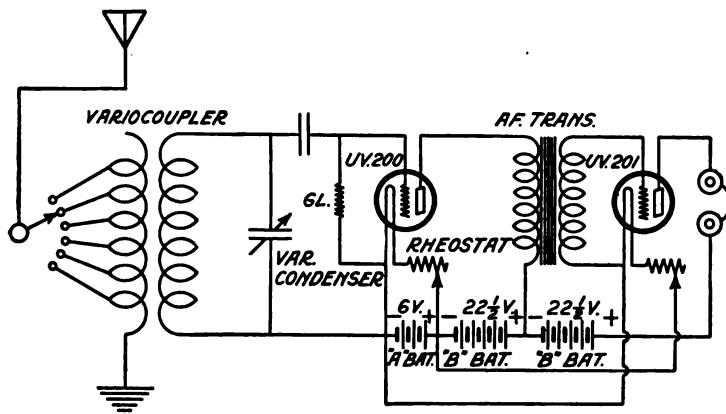

FIGURE 2: *A straight audion circuit with one stage of audio frequency amplification, employing a variocoupler and a variable condenser for tuning.*
**ANSWER:** Figure 2 will show you how to connect your instruments. You will need two 5-ohm rheostats for controlling the filament current of the tubes.